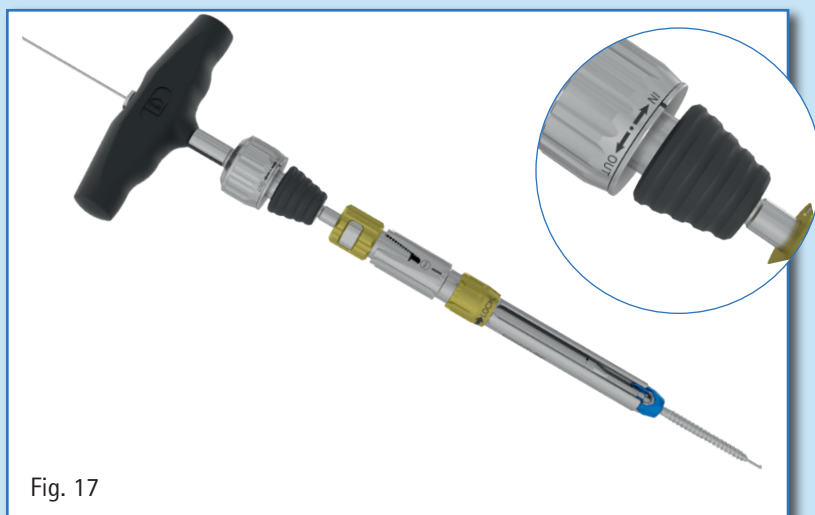

Fig. 17
- Attach the desired Quick Connect Ratchet Handle (SZ222R, SZ224R or SZ225R) to the Screwdriver, and slide the assembly over the K-Wire. Ensure that the ratchet is set on "IN" for screw insertion. (Fig. 17)